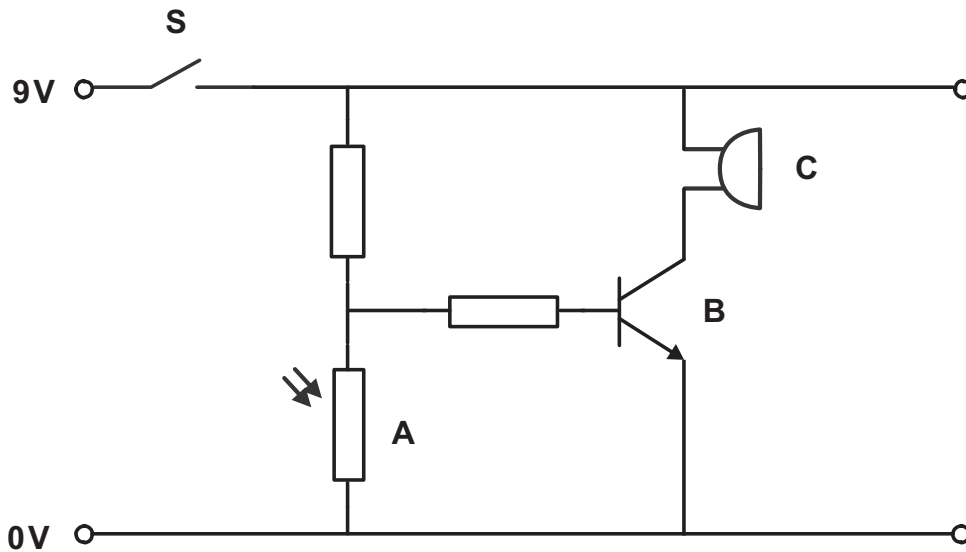

**Fig. 8**
- 6 (a) Name the electronic components represented by the symbols labelled **X** and **Y** in **Fig. 8** below.